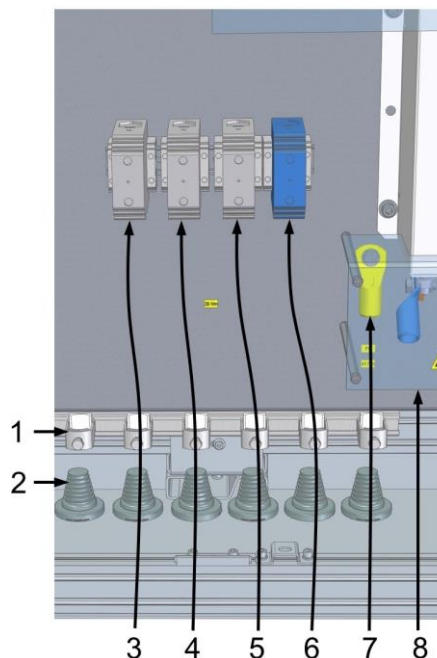

Figure 12: AC connection
2. **Connect** the PE conductor to the press-in nut (Figure 12).
1. **Observe** the sequence (Figure 12).